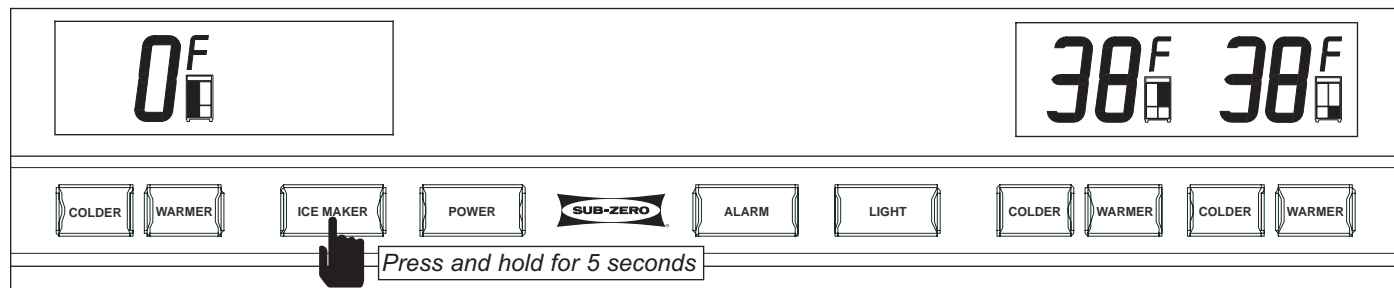

Figure 3-17. Initiate Manual Freezer Evaporator Defrost - Press and Hold ICE MAKER Key for 5 Seconds
To initiate manual freezer evaporator defrost, press and hold the ICE MAKER key for five (5) seconds (See Figure 3-17).